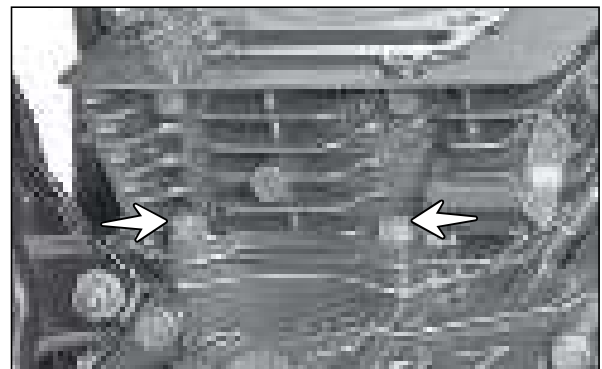

Fig. 3.83
- Remove the hexagonal flange nut (M6 - 2 Nos.) from the mounting cylinder block with the crankcase. (Fig. 3.83)